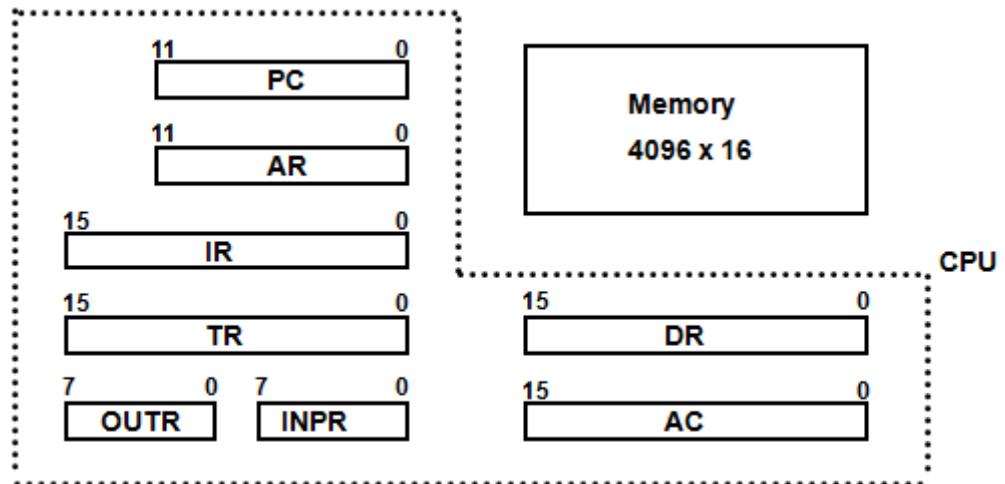

Figure 2.4: Basic Computer Register and Memory
- These requirements dictate the register configuration shown in Figure 2.4.